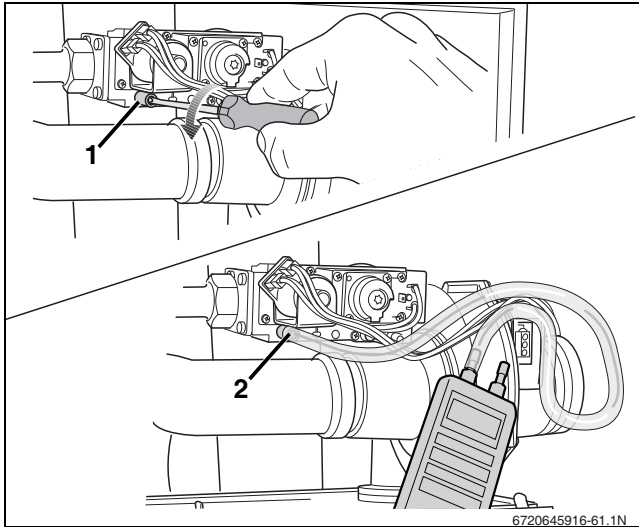

Fig. 64 Measuring the gas supply pressure
- ▶ Open the screw plug on the testing nipple for the gas inlet pressure by 2 turns (→ fig. 64, [1]).
- ▶ Connect the pressure gauge connection tube to the positive port of the testing nipple (→ fig. 64, [2]).